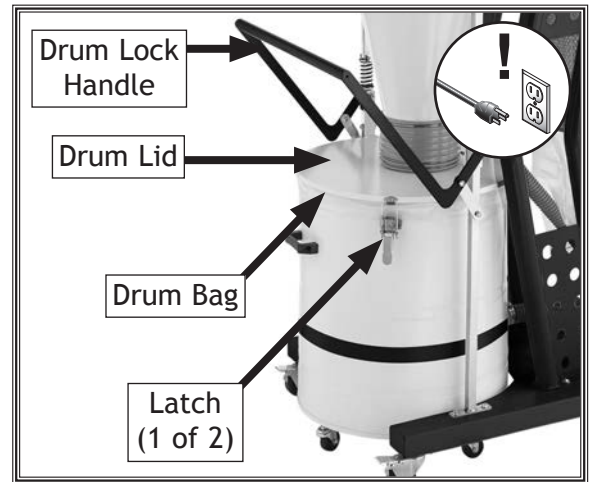

Figure 57. Collection drum bag components.
2. Lift drum lock handle to lower collection drum onto casters (see **Figure 57**).
3. Release both latches on sides of drum, then roll drum clear of drum lid (see **Figure 57**).